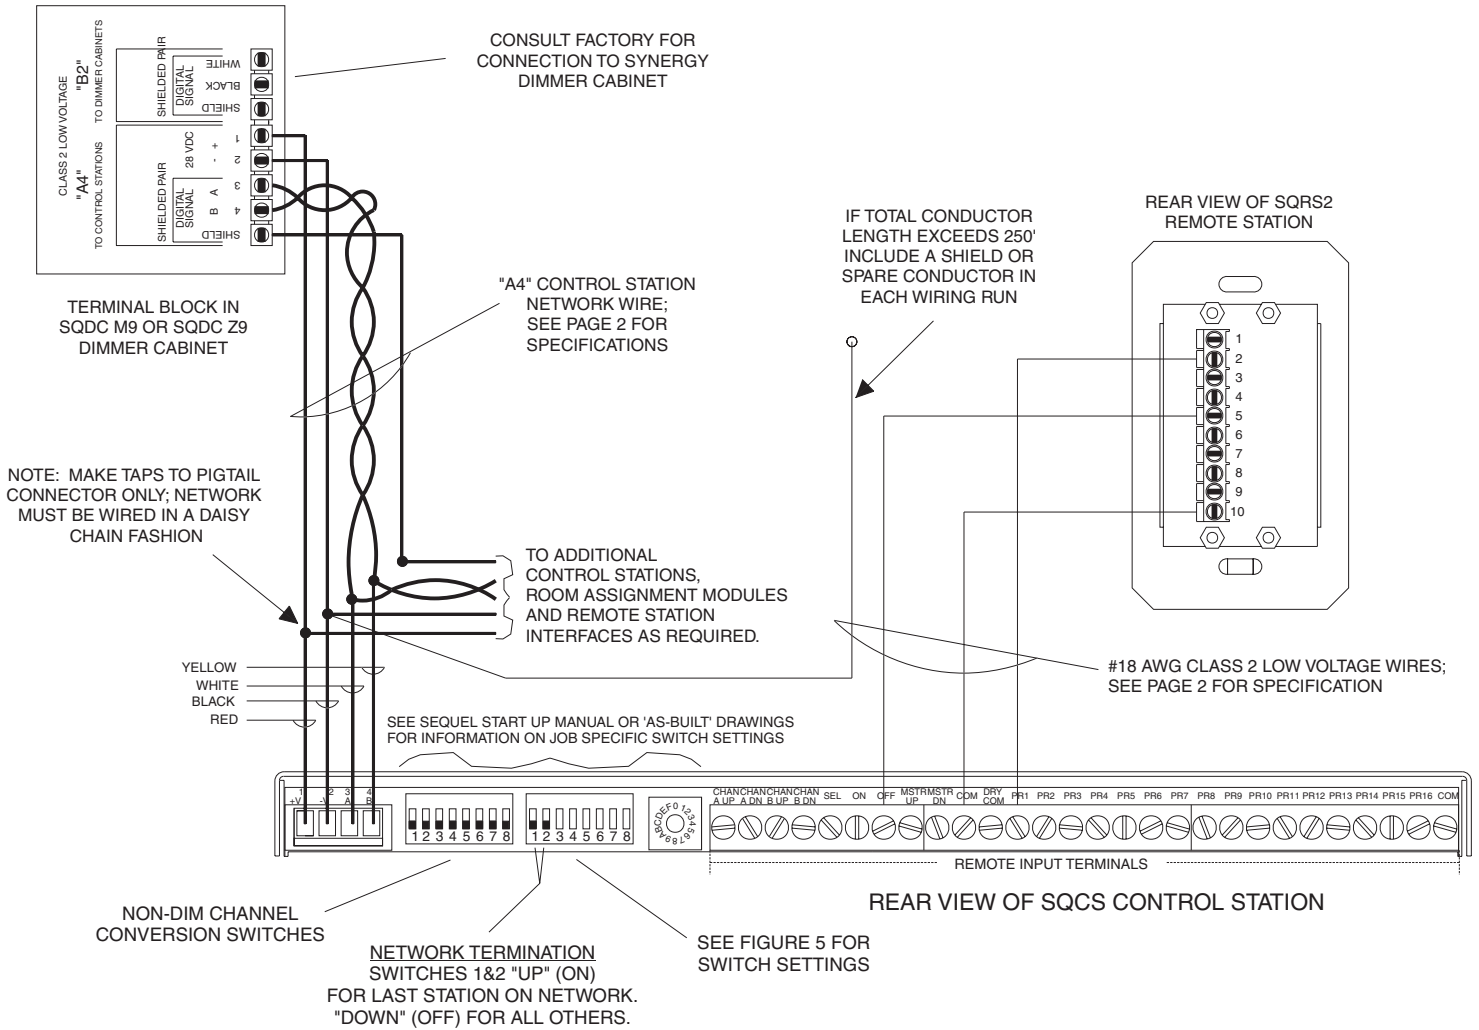

**Figure 3 - Synergy Control Station Network - Typical Wiring
3. Verify the correct voltage is present on the A4 power conductors BEFORE connecting the control station pigtail. Maximum 28 VDC (nominal) should be present. See *Figure 3 or 4* for detailed interconnect wiring of control station network.